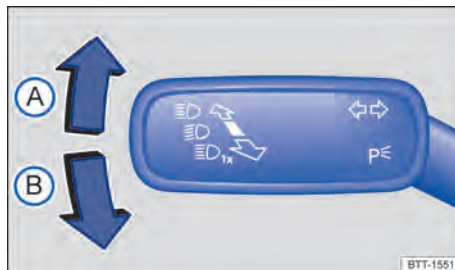

Fig. 81 On the left-hand side of the steering column: Turn signal and main beam lever
2. Move the lever from the centre position to the desired position → Fig. 81.